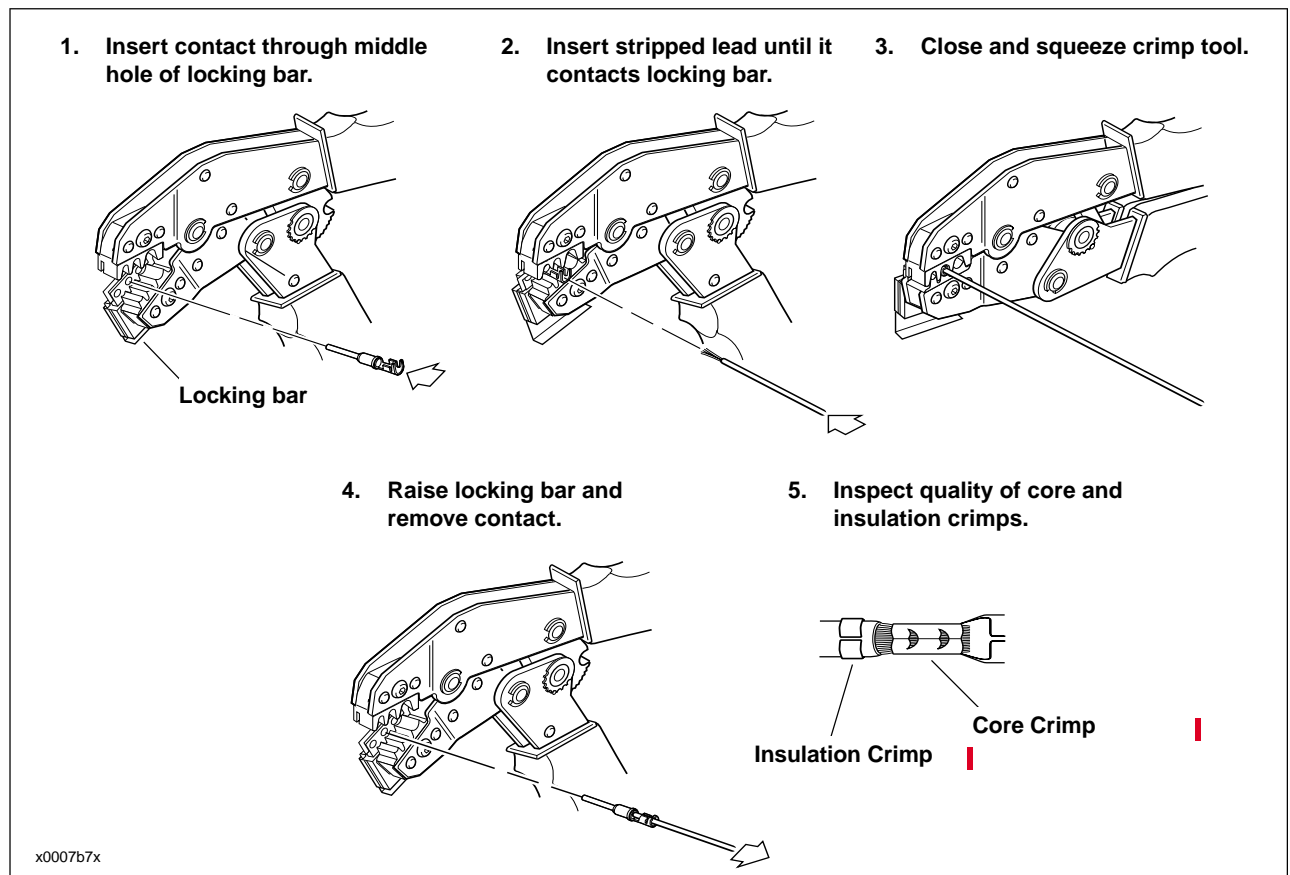

Figure 7-77. Deutsch Crimping Procedure
1. See Figure 7-77. Squeeze the handles to cycle the DEUTSCH TERMINAL CRIMP TOOL (Part No. HD-39965) to the fully open position.